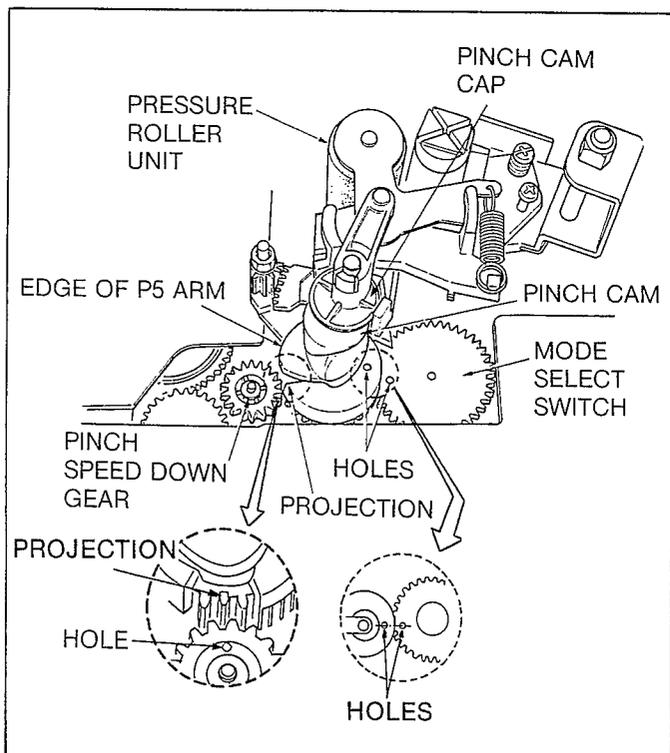

Fig. A12
1. Install the Pinch Cam so that the edge of P5 Arm comes into the Rift of Pinch Cam and Projection of Pinch Cam is exactly in line with the hole of Pinch Speed Down Gear, at this time, the hole of Mode Select Switch is exactly in line with the hole of Pinch Cam as shown in Fig. A12.